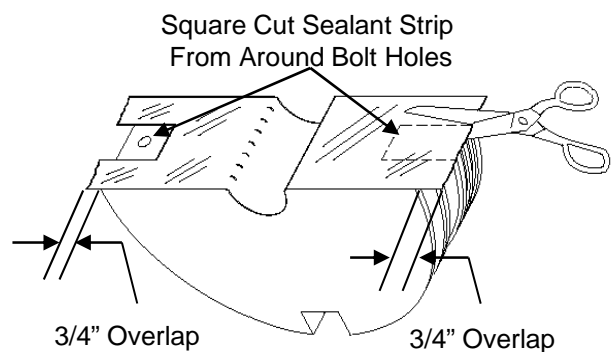

Figure 16
10.10 Apply LOCK-TAPE Sealant Strips (about 3" W x 14" L) to End Plate mating surfaces. Apply strips without stretching. **See Fig. 16.**